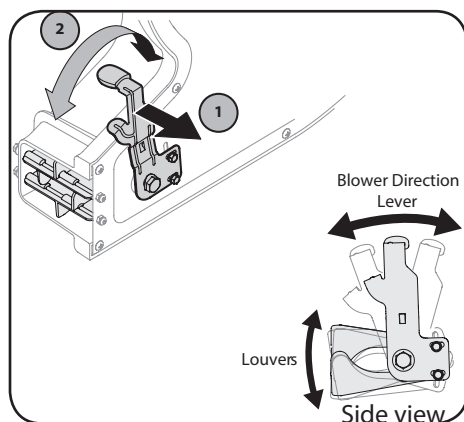

Figure 4-4
1. Pull the lever out and away from the blower. See Figure 4-4.